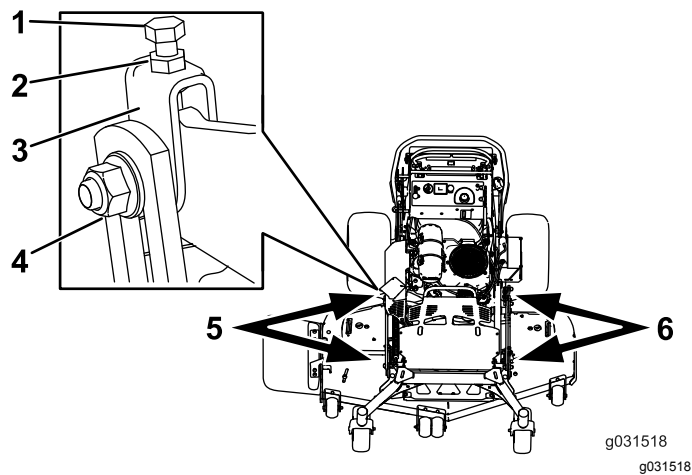

Figure 80
- Loosen the side nut and jam nut in the yokes you want to adjust (Figure 80).
- Rotate the top bolt of the yokes to adjust the height of the mower deck (Figure 80).